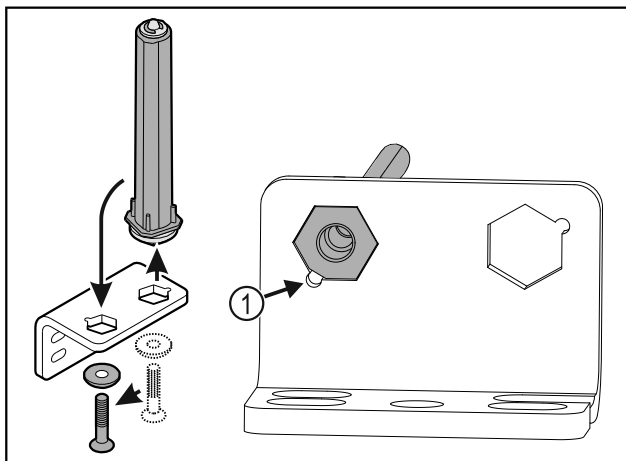

Fig. 34
- ▶ Make sure the pin chamfer Fig. 34 (1) faces the round hole when you put it in.